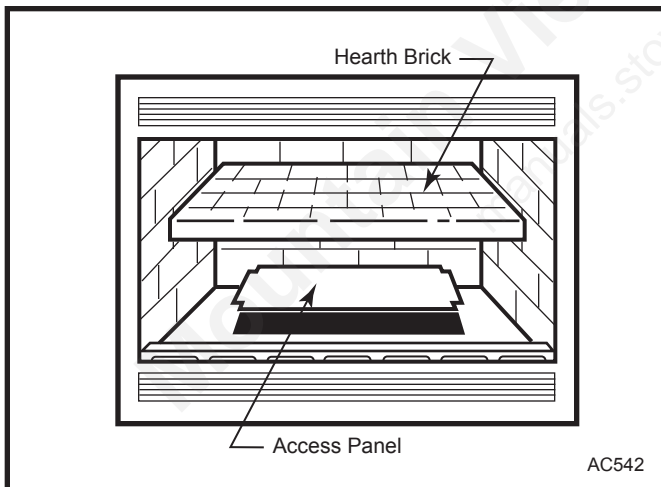

Fig. 30 Remove hearth brick and access panel.
The junction box, on/off switch and fan/blower are factory installed. This system requires 110-120V AC be wired to the factory installed junction box before the fireplace is permanently installed. (Fig. 30)
2. Remove access panel by carefully pulling up and out from the back center edge of the panel until the tabs at each side are free. Use caution - the panel edges may be sharp. (Fig. 30)